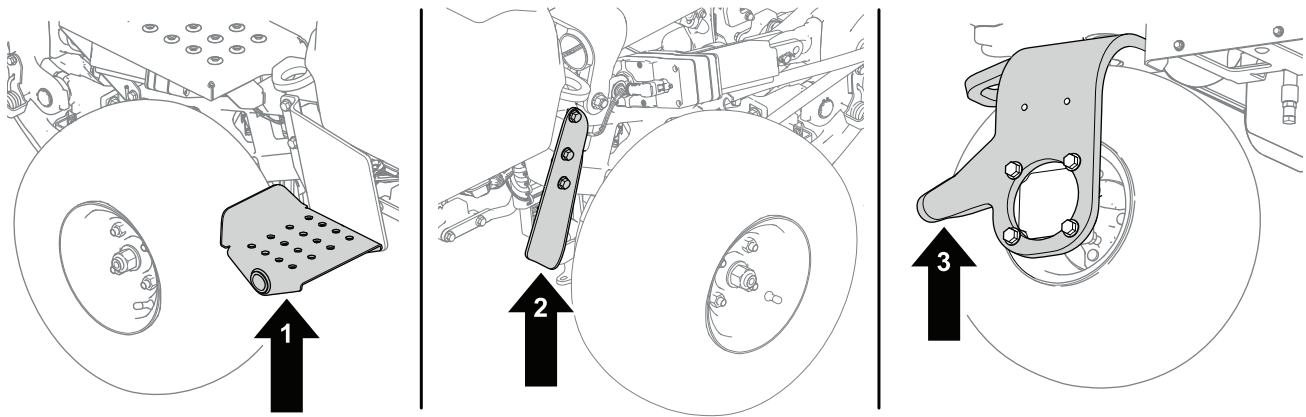

Figure 42
1. Position a jack at the desired jacking point (Figure 42):